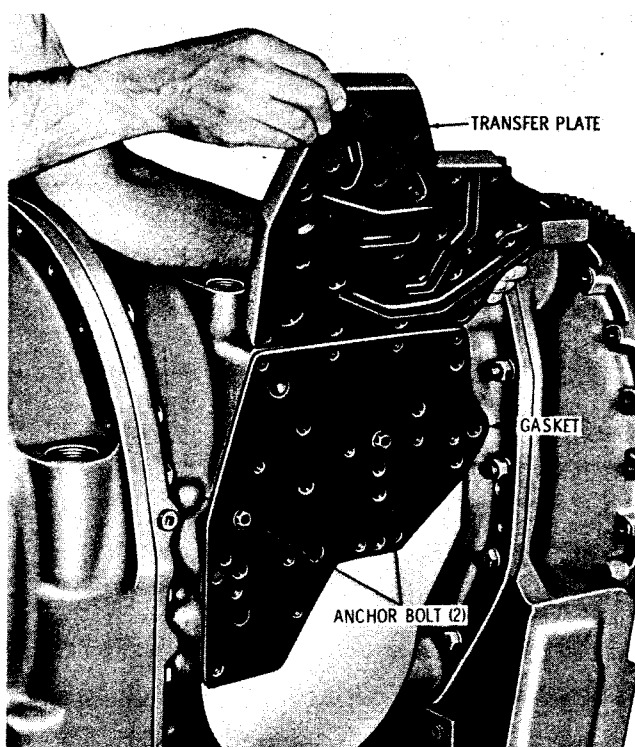

Fig. 5-5. Removing oil transfer plate
(6) Remove two bolts and lock washers which retain the oil transfer plate. Remove the transfer plate and gasket (fig. 5-5). Do not remove the two anchor bolts from the transmission housing.
(7) On models which include a governor drive (refer to items 37 through 51, foldout 14), remove bolts 48 and lock washers 47. Then remove the governor drive components and gasket 45 or 50. Refer to paragraph 6-5 for rebuild of the governor drive.
(8) On models which include a power takeoff at the rear of the transfer gear housing